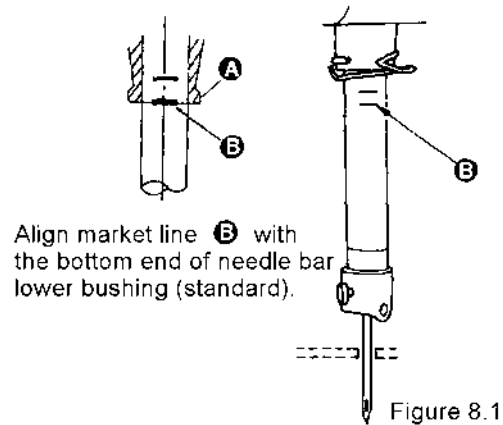

Figure 8.1
- b) Enter the Position Test in the AMF Reece Controller (as described in section 5) and select the Down position. Check the needle bar stops in the position shown in figure 8.1. If any adjustment is required move **needle down sensing ring** (figure 8.1) until the correct position is achieved. Exit the position test.